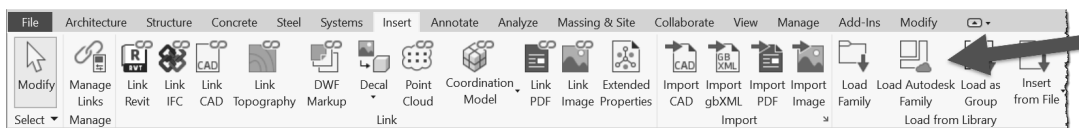

FIGURE 3-5.1 Load Family
2. From the Insert tab, select the **Load Autodesk Family** button on the *Ribbon* (Figure 3-5.1).